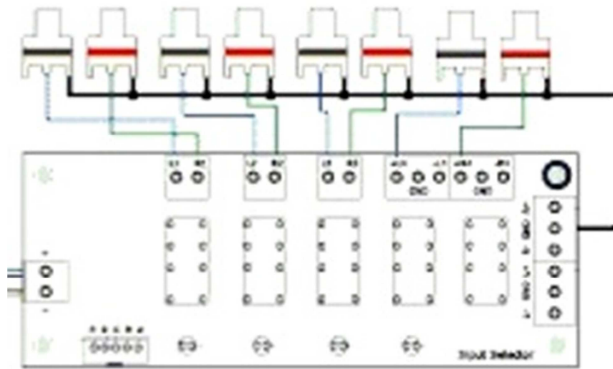

Figure 10: Connection diagram of input selector
- C. Mount (3mm screw and nut) and connect the input selector to RCA sockets at the rear plate of the chassis. The connection is shown in Figure 10. The ground wires (black) are connected together.